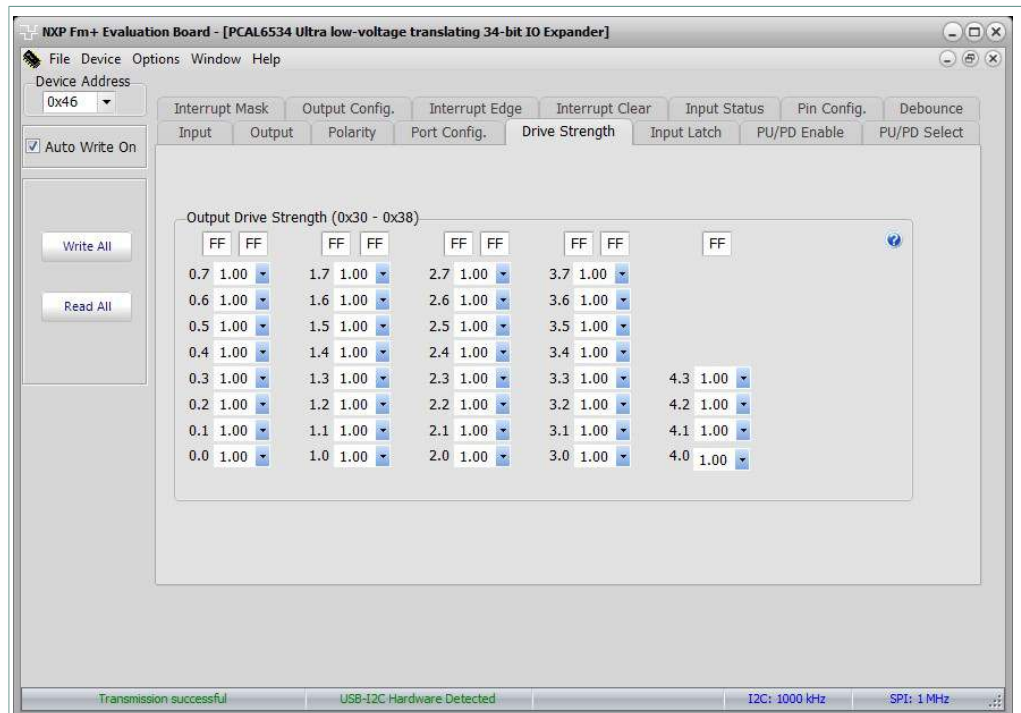

Figure 14. Device configuration screen for registers 30-38 hex
- 6. Drive strength registers read or write are shown in Figure 14.